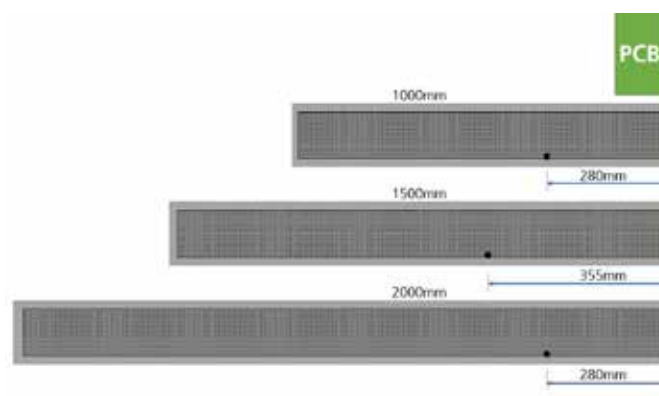

Figure 30 Temperature sensor position
Note the position of the temperature sensor from the right of the unit and ensure it does not get damaged, the cables will need to be disconnected from the control panel terminals TEMP, refit in the position given in figures 30 and table 9. (below)
10. Ensure the temperature sensor is refitted in the correct position and wired into the TEMP terminal of the control panel, see figure 30 and table 9 on page 35